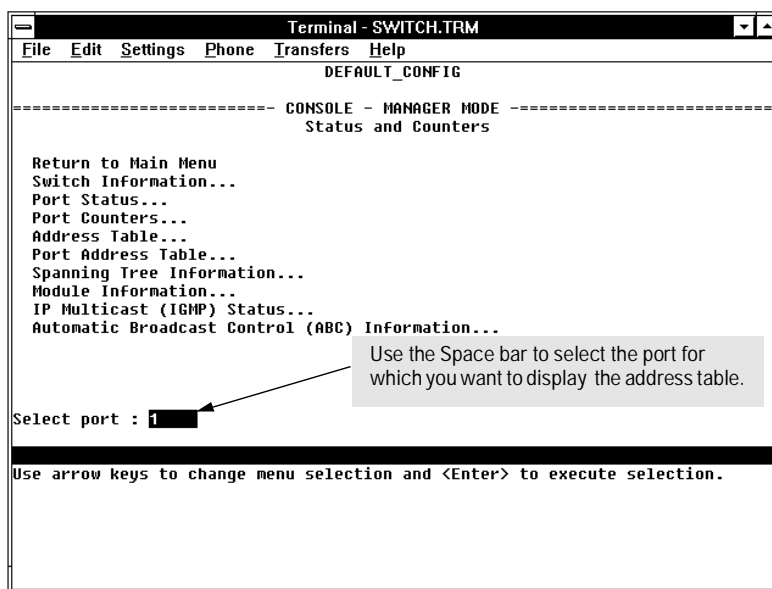

Figure 4-7. Example of How To Access the Port Address Table
2. When the Select Port prompt appears, press the Space bar to display the port you want to examine, then press Enter. (See figure 4-7, above.)